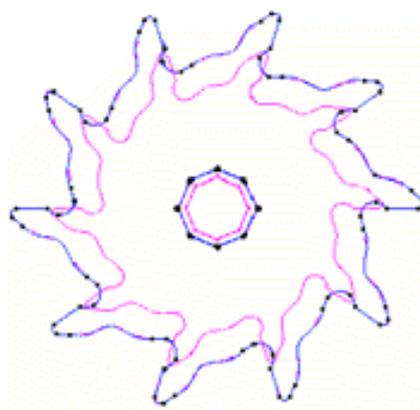

Figure 43. The surface of the new optimized design
- 8 . Create the hole in the surface of the wheel using **Geometry->Edit->Hole NURBS Surface** (the result is shown in Figure 43).